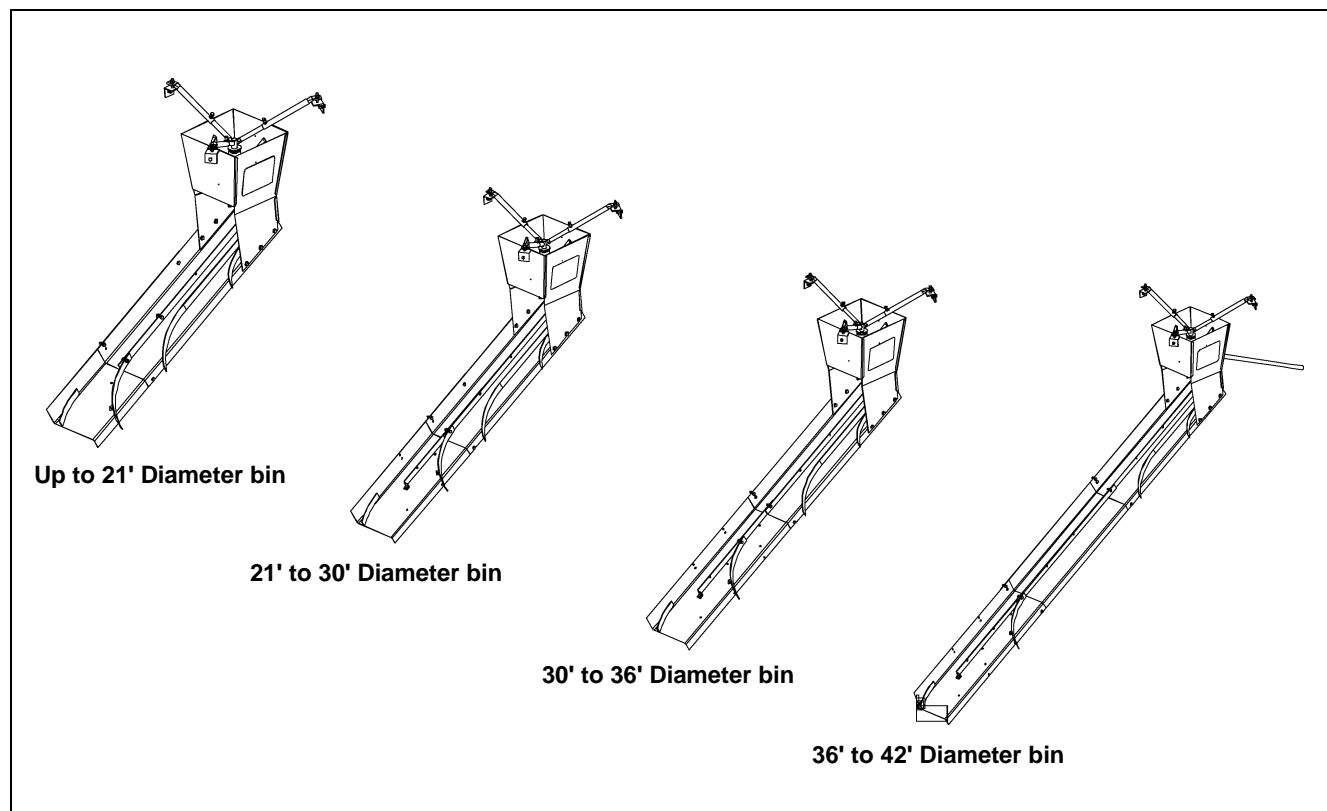

Figure 2A
1. Assemble chute (3071027-Y) to hopper (3071034-Y) with six (6) 3/8" x 1" bolts, lock washers and nuts.
2. Assemble chute (3071026-Y) to the end of the first chute with three (3) 3/8" x 1" bolts, lock washers and nuts based on the size of the bin.
- a. 21' Diameter and smaller - Assemble in the shortest position. *(See Figure 2A.)*
- b. Over 21' through 30' diameter - Assemble in the middle position. *(See Figure 2A.)*
- c. Over 30' through 36' diameter - Assemble in the longest position. *(See Figure 2A.)*
- d. The 3050 spreader can be used for bin diameters up to 42' diameter when a chute extension option (3079009-Y) is installed between the first and second chutes. **NOTE:** *The counterweight option (3079011-Y) must be installed when using the chute extension. (See Figure 2A.)*
3. Attach the curved slinger (3071029-Y) to the bottom at the end of the second chute and to the straightening vane of the first chute (or straight extension 3071028-Y) with two (2) 3/8" x 1" bolts, lock washers and nuts.
4. When the second chute is in the middle or longest position, the straight extension (3071028-Y) is assembled to the bottom of the chute with two (2) 3/8" x 1" bolts, lock washers and nuts. This extension is not used when the chute is assembled in the shortest position.
5. **For Model 3050 with counterweight options:** Assemble the counterweight tube (3071040-Y) to the back of the hopper with two (2) 3/8" x 1" bolts, lock washers and nuts.